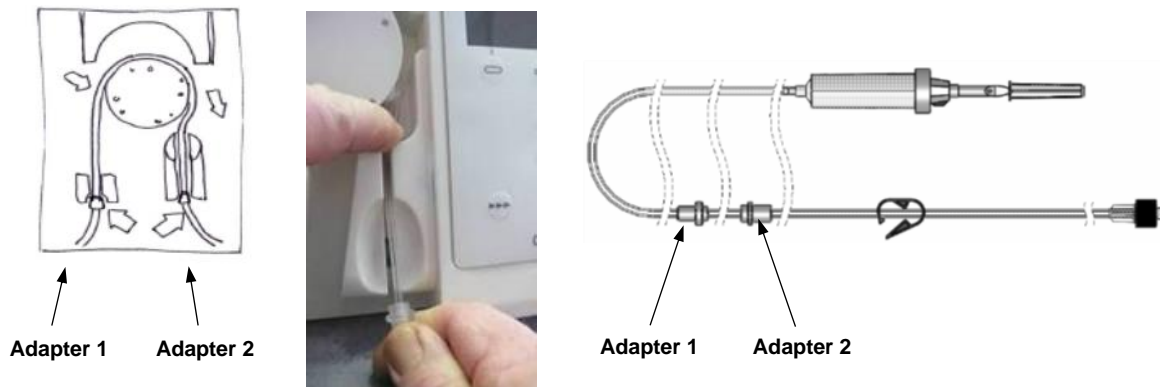

Figure 14
2. Hold Adapter 2 in your right hand and insert the tube over the rotor into the **Qiona**®. Press the tube behind the rotor, downwards, with your left index finger (see *Figure 14*). At the same time, using your right hand, while holding Adapter 2, pull the tube through the right slit in the Adapter 2 entry point.